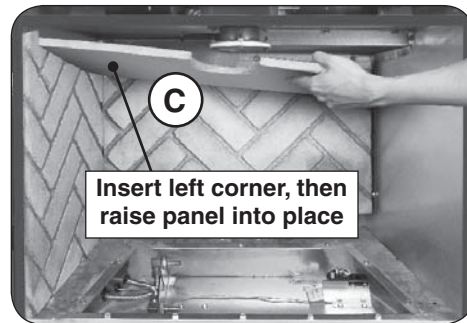

Fig. 30-1 Place top panel
8. Place the top panel into the unit as shown in Fig. 30-1, "C". It will be supported by the left panel.